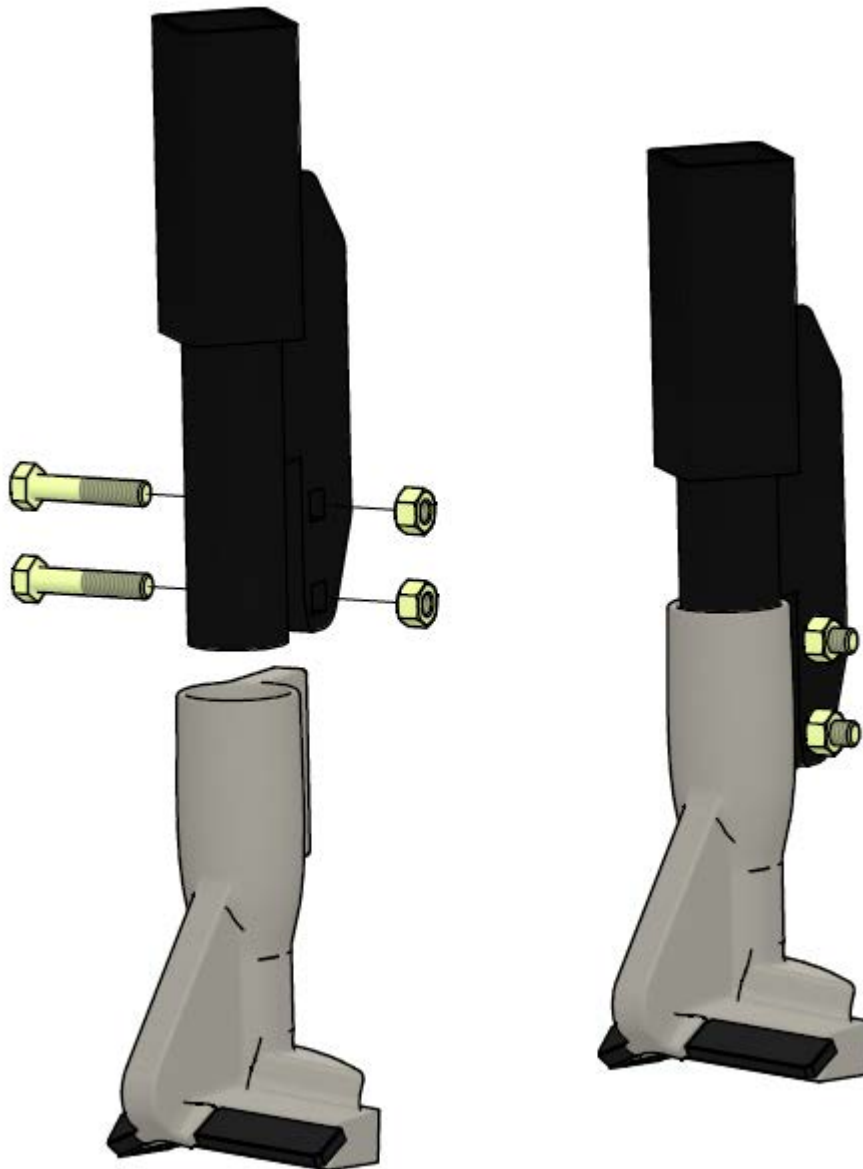

Figure 7: Paired row seed knife installation
2. Insert the bolts as shown in Figure 7 (Note: they go opposite direction than OEM bolts)